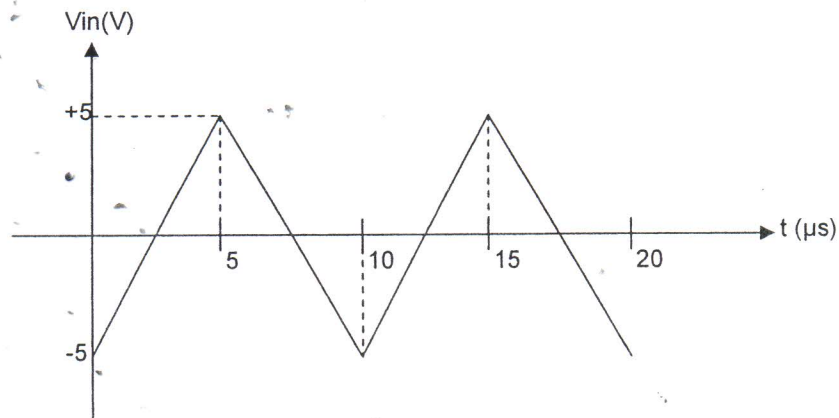

Figure 3
- (c) Draw the output voltage of an op-amp differentiator for the triangular-wave input shown in Figure 3 with  $R=5k\Omega$  and  $C=0.001\mu F$ .